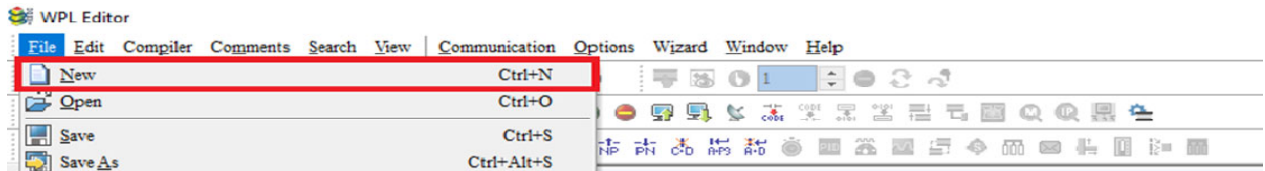

Figure 16-5
**NOTE** You can also find "New file (N) (Ctrl+N)" in the "File (F)", as shown in figure 16-5 below.